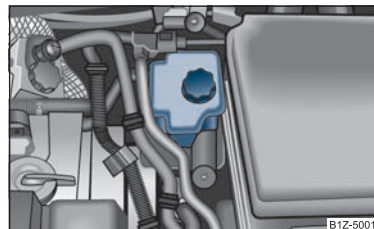

Fig. 166 Engine compartment: Brake fluid reservoir
- Inspect the brake fluid level in the reservoir ⇒ fig. 166. The level must be between the "MIN" and "MAX" markings.